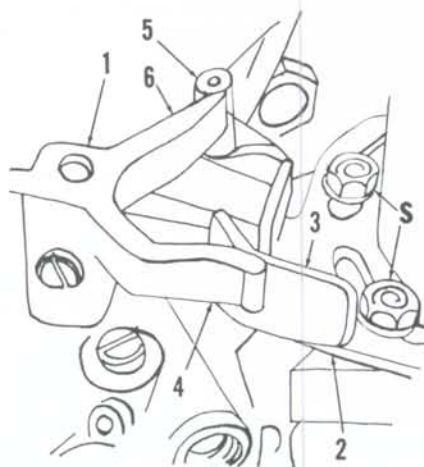

Fig. M7-14—With distributor in intermediate advance position, loosen screws (S) and reposition pickup plate (2) until tab (3) just touches cluster finger (4).
Refer to Fig. M7-14. With distributor in previously established intermediate advance position, loosen the cap screws (S) securing pickup plate (2) to distributor body, and move the plate until the tab (3) just touches the cluster finger (4). Tighten the cap screws. Move the control lever to advance timing until the maximum timing advance screw just touches distributor body and bend the nylon covered pickup pin (5) until a clearance of 0.0000-0.015 exists between pickup pin and cluster finger (6).